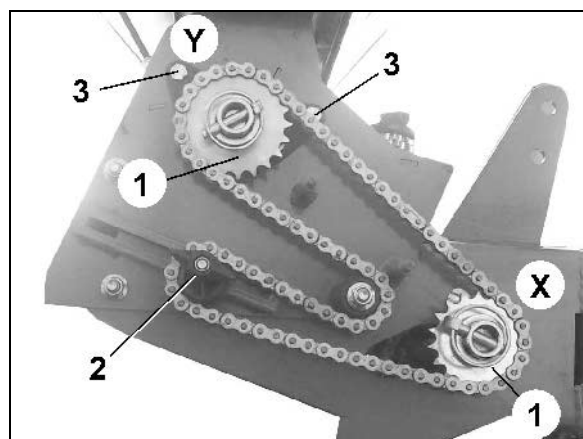

Fig. 20
3. Slacken chain tensioner (Fig. 20/2).
6. Slacken the bolts on the metering shaft bearing (Fig. 20/3) only on the drive side.